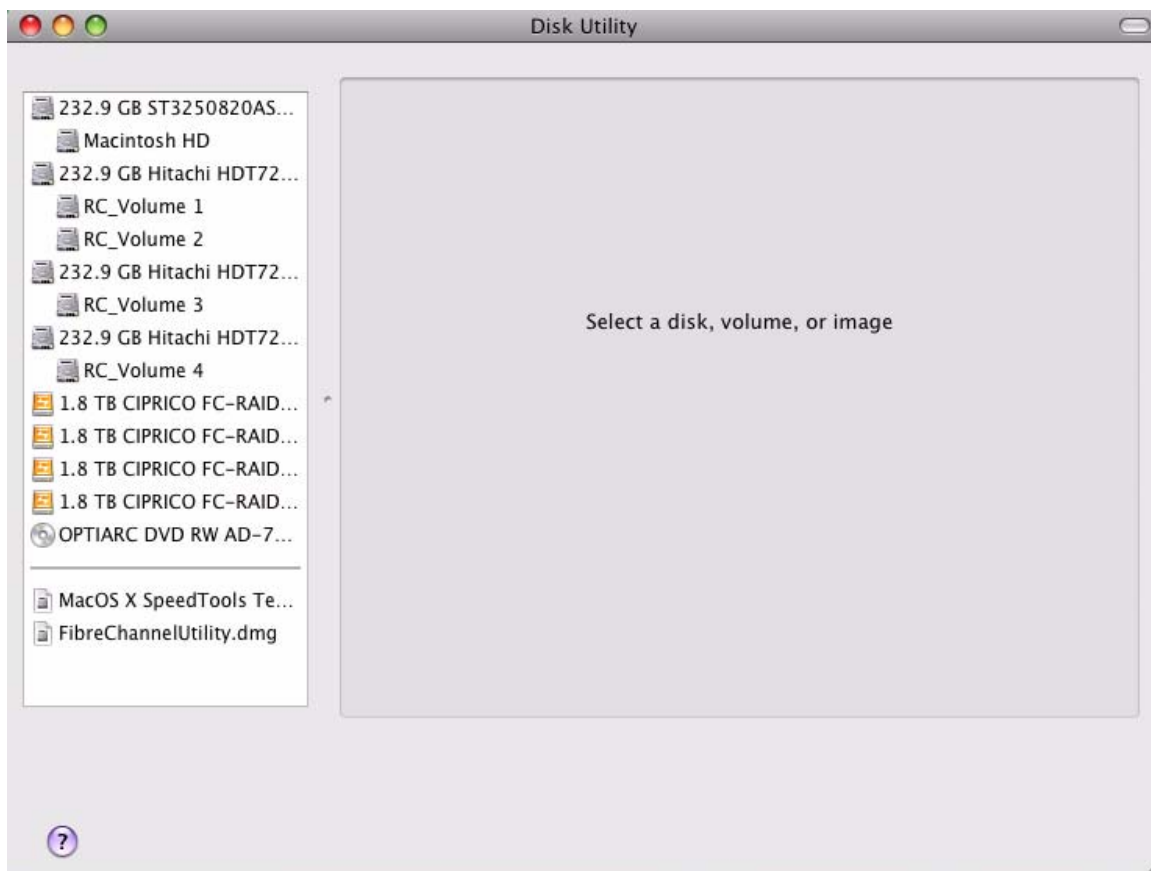

FIGURE 6-2. Apple Disk Utility Screen, Showing Four 1.8 TB Ciprico FC-RAID Drives.
3. The *Apple Disk Utility* screen appears. In the example below, icons of the four “1.8 TB CIPRICO FC-R...” drives of the MV 4440 are shown in the left side. See Figure 6-2.